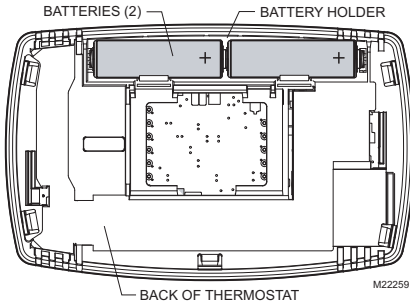

Fig. 21. Installing batteries.
1. Install two AA alkaline batteries on the back of the thermostat as marked. See Fig. 21.